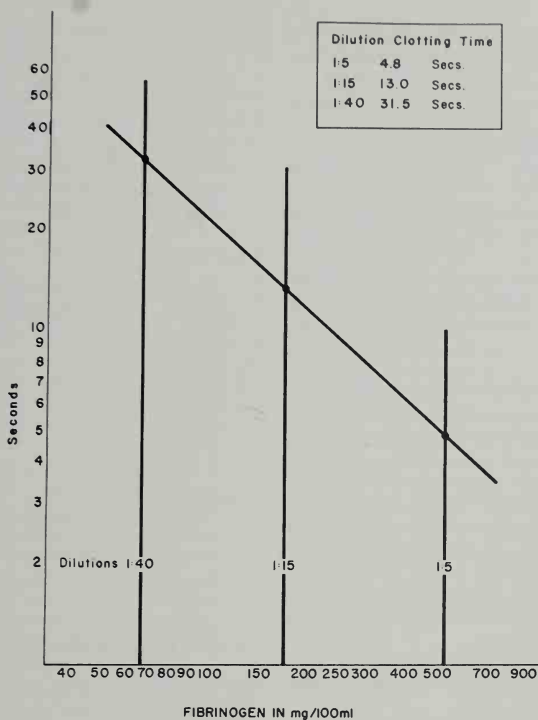

FIG. 129. Curve for quantitative fibrinogen procedure.
- J. Using double log graph paper draw a fibrinogen curve as shown in Figure 129.